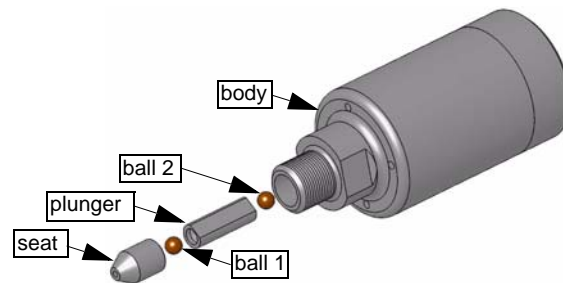

Figure 5-60: Safety Valve Internal Components
The high-pressure water seal occurs between the seat and the first ball (Figure 5-60). The body contains a large spring that pushes on the ball and seat creating a water seal up to 66,000 PSI (+ or – 2K). When leaks occur in the safety valve, they will be observed at the 4 holes in the large body, which normally are dry with no water inside.
2. Remove and discard the two balls and seat (Figure 5-60).
6. Stack the parts together (refer to Figure 5-60) and screw the assembled body into the tee fitting by hand.